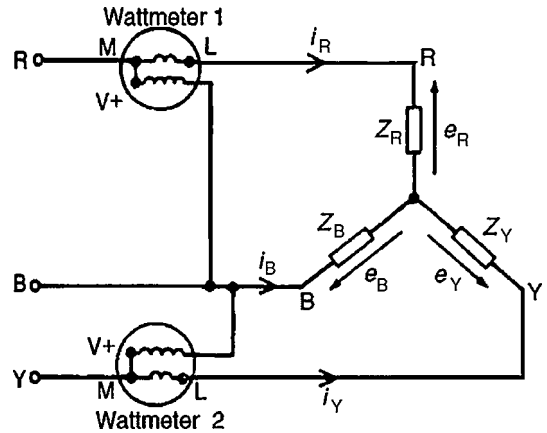

Figure 20.15
- (a) A connection diagram for the two-wattmeter method of a power measurement is shown in Fig. 20.15 for a star-connected load.
However, $(e_R - e_B)$ is the p.d. across wattmeter 1 in Fig. 20.15 and $(e_Y - e_B)$ is the p.d. across